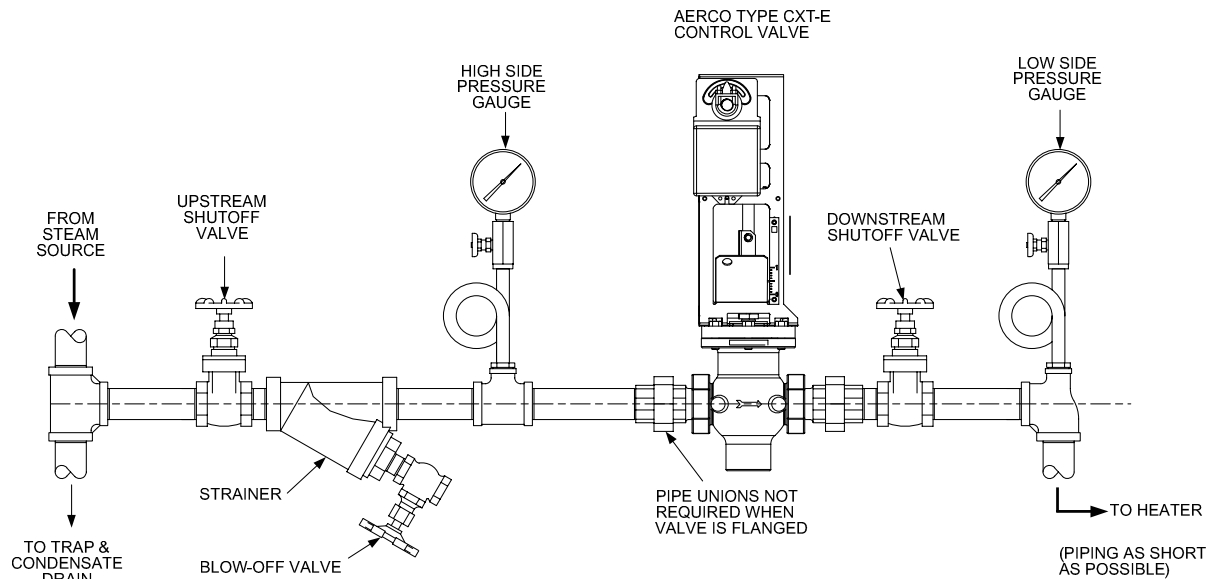
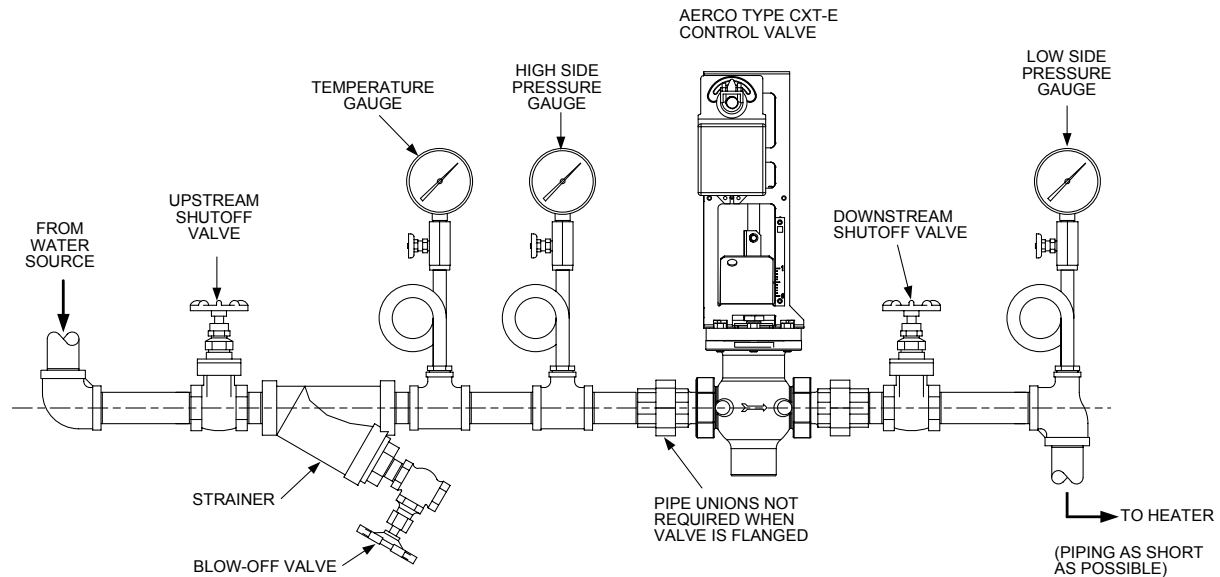

Figure 2-1. Recommended Control Valve, CXT-E Installation For Steam Flow
Figure 2-2. Recommended Control Valve, CXT-E Installation For Hot (Boiler) Water Flow
2. Next, refer to the recommended installation drawing in Figure 2-1 for steam flow, or Figure 2-2 for hot (boiler) water flow.
3. Install the Control Valve with the Actuator Linkage in the vertical, upright position as shown in Figure 2-1 or 2-2.
6. Install an in-line strainer upstream of the Valve as shown in Figure 2-1 (steam) or Figure 2-2 (hot boiler water). This will protect against foreign matter reaching the Valve during service operation.
9. Pressure gauges should be installed on both sides of the Control Valve as shown in Figure 2-1 (steam) or Figure 2-2 (hot water).
11. A temperature gauge should be installed in the high pressure side of a hot (boiler) water line as shown in Figure 2-2.
- OP1. Refer to Figure 2-1 (Steam Flow) or Figure 2-2 (Hot Water Flow). To place the Control Valve and Heater System into operation, proceed as follows:
2. Clean the Strainer in the heating fluid line (Figure 2-1 or Figure 2-2) in accordance with the instructions furnished with the Strainer.
1. Verify that all piping connections have been made in accordance with Figure 2-1 (Steam Flow) or Figure 2-2 (Hot (Boiler) Water Flow).